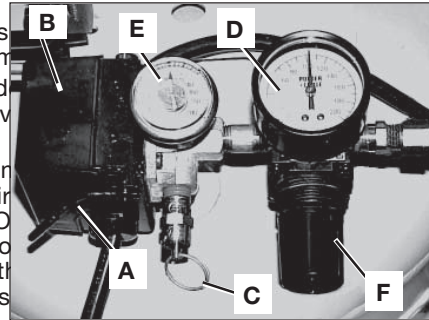

Fig. 1
ON/AUTO - OFF Switch (A) Fig. 1: Turn this power switch to the ON/AUTO position to start the compressor and OFF to stop the compressor.
Pressure Switch (B) Fig. 1: The pressure switch automatically starts the motor when the air tank pressure drops below the factory set "cut-in" pressure. It stops the motor when the air tank pressure reaches the factory set "cut-out" pressure.
Safety Valve (C) Fig. 1: If the pressure switch does not shut off the air compressor at its cut-out pressure setting, the safety valve will protect against high pressure by "popping out" at its factory set pressure (slightly higher than the pressure switch cut-out setting).
Outlet Pressure Gauge (D) Fig. 1: The outlet pressure gauge indicates the air pressure available at the outlet side of the regulator. This pressure is controlled by the regulator and is always less than or equal to the tank pressure.
Tank Pressure Gauge (E) Fig. 1: The tank pressure gauge indicates the reserve air pressure in the tank.
Regulator (F) Fig. 1: The air pressure coming from the air tank is controlled by the regulator knob. Turn the knob clockwise to increase pressure and counterclockwise to decrease pressure. To avoid minor readjustment after making a change in pressure setting, always approach the desired pressure from a lower pressure. When reducing from a higher to a lower setting, first reduce to some pressure less than that desired, then bring up to the desired pressure. Depending on the air requirements of each particular accessory, the outlet regulated air pressure may have to be adjusted while you are operating the accessory.